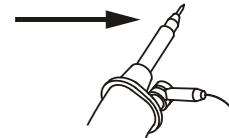

Figure 35. Probe Tip
To avoid electrical shock, always use the insulation sleeve (Fig. 1 item 4e-7e) or the probe tip when using the probe reference (ground) lead. The voltage applied to the reference lead is also present on the ground ring near the probe tip, see Figure 35.